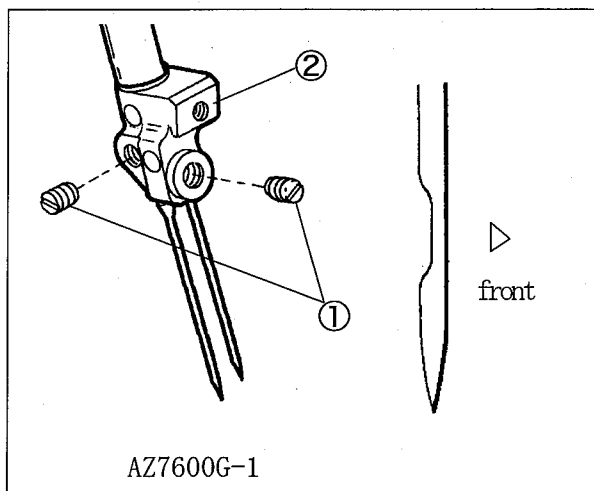
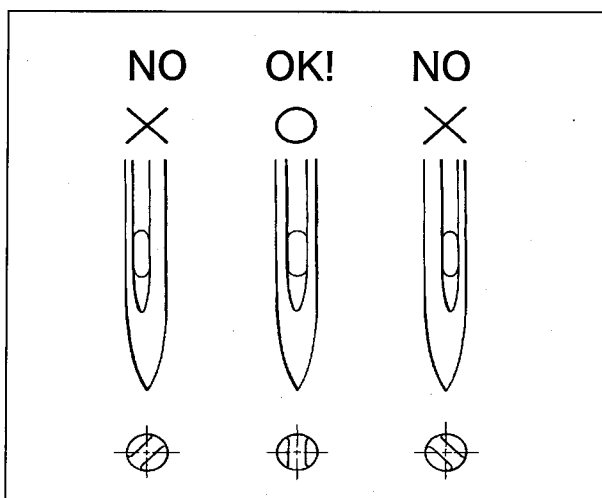

Fig. 21
Fig. 22
- (1) Loosen the screw ① with an allen wrench. (Fig. 21)
- (2) Remove the old needle with a pair of tweezers.
- (3) Insert a new needle into the needle clamp ② as far as it goes with facing its scarf to the right back. (Figs. 22 and 23)
- (4) Tighten the screw ① with the allen wrench.